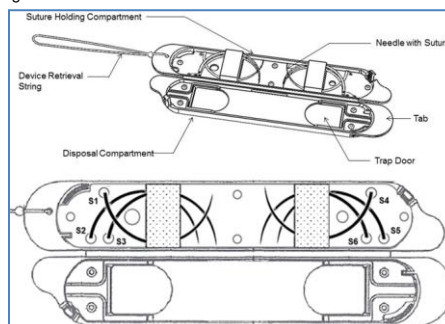

Figure 2 - Views of StitchKit® Device when it is open, illustrating key parts and symbols (S1, S2, etc.) on suture exit holes that identify each suture.
- 5.2. Place the used needle (with remnant suture removed) into the disposal compartment via the trap door. It is typically easier to place the blunt aspect of the needle into the compartment first (Figure 2).
Figure 2 shows two views of the StitchKit® device in its open configuration. In the top view key features such as the Disposal Compartment, Retrieval String, and Tabs at the ends of the device are highlighted.
The lower view in Figure 2 illustrates how each suture exits the device through a unique Exit Hole labelled to identify the suture types. In an actual device the generic labels S1 through S6 are replaced with short symbols identifying the actual sutures within the device.